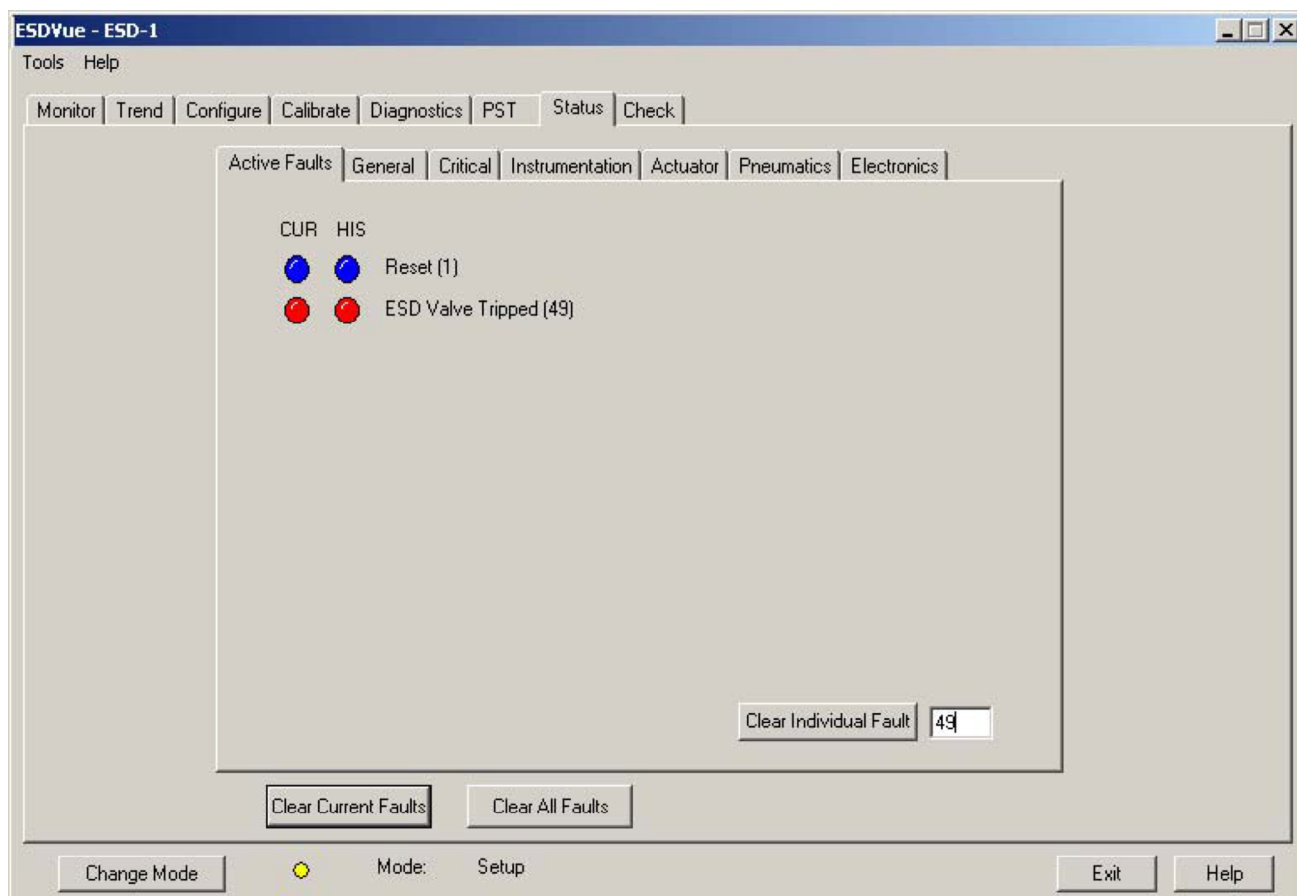

Figure 313 - Entering an Individual Fault
Use the *Status* screen to select and clear an individual fault in the *Active Faults* tab that has a HART® fault code, digits enclosed in parentheses, located to the right of the text describing the fault (*Figure 313*).
1. Edit the *Clear Individual Fault* field HART® fault number (*Figure 313*).